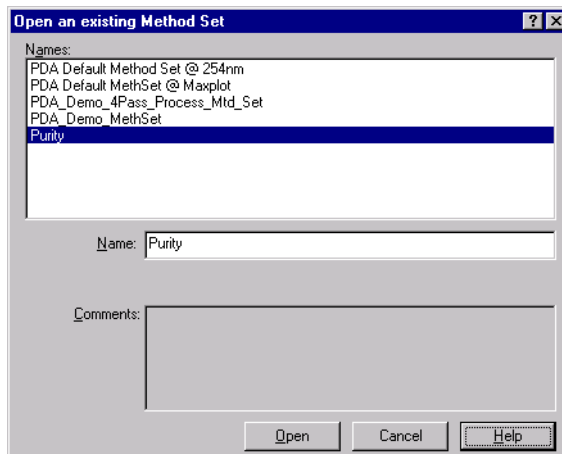

Figure 4-4 Open an Existing Method Set Dialog Box
- Select **File > Open > Method Set** to open the Open an existing Method Set dialog box (Figure 4-4).